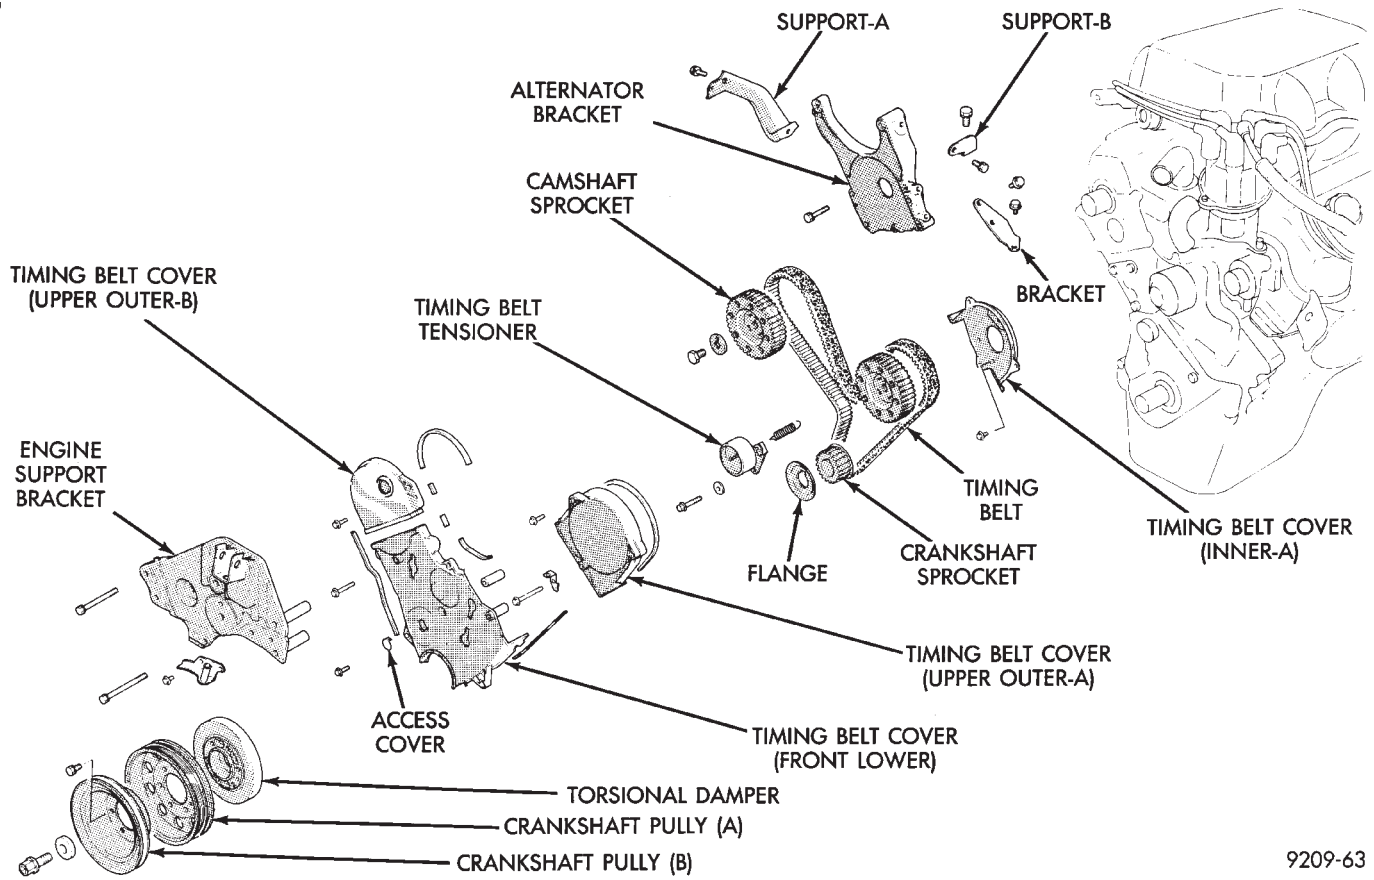

Fig. 13 Timing Belt System
(4) Install crankshaft sprocket flange (Fig. 13).